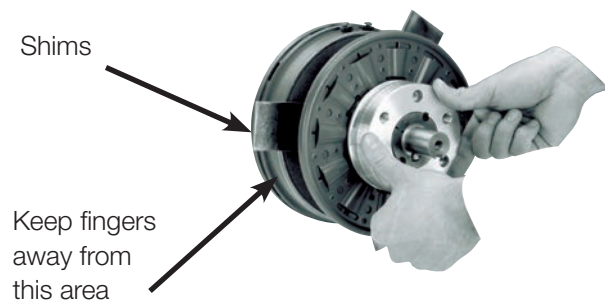
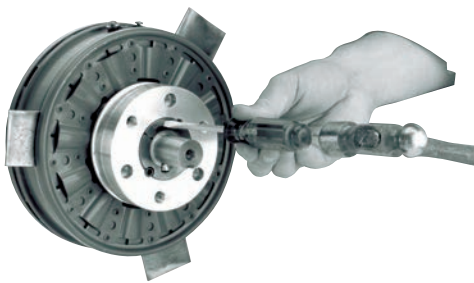

Figure 4 - Installing armature with shims in place.
Figure 5 - Seating the taperlock bushing.
Step 9: Make sure no power is applied to the brake. Place three steel shims 120 degrees apart on the magnet as shown in Figure 4.
Slip the armature hub assembly onto the motor shaft until the armature makes contact with the shims. (See Figure 4) Using a drift, lightly tap on the taperlock bushing at several points around the circumference with a small hammer until it will not slide further onto the shaft. (See Figure 5)
Step 10: Using a torque wrench, tighten the hub bushing screws (Item 12) alternately and evenly until tight. Place a drift against the large end of the bushing at several points around the circumference and tap it lightly with a small hammer. (See Figure 5) Repeat this alternate tapping and re-tightening until the specified torque no longer turns the screws after tapping. Tighten the screws to 15 lb.ft. torque. The gap between armature and magnet must be 0.062 inch to 0.125 inch. If the gap is outside of that range, reposition the armature hub assembly as described in Steps 11 & 12; otherwise, go to Step 13.